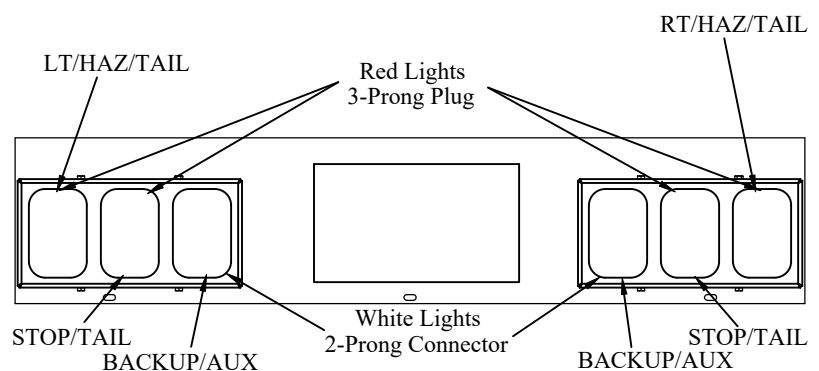

Figure 10: Light Functions and Colors
2. **Pull** harness plugs through the inserted grommets, matching the proper tail light configuration (Figure 10).
3. **Connect** the plugs to their lights (Figure 10).